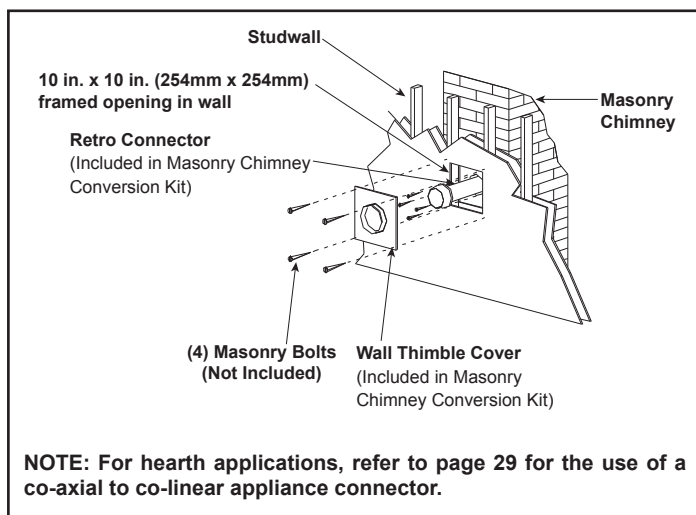
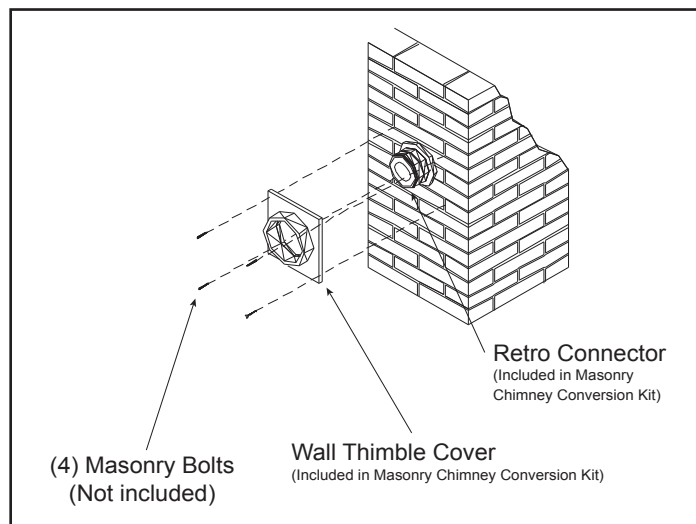

Figure 4.25
Figure 4.30
2. Once the center point of the penetration has been determined, cut a 6 in. (152mm) diameter hole in the masonry. If the hole is too large, the retro connector might not mount properly; if the hole is too small, the appliance might starve for intake air. If there is a frame wall in front of the masonry wall, cut and frame a 10 in. (254mm) square opening in the wall (centered around the 6 in. (152mm) masonry opening). If there is sheet rock only (no studs) in front of the masonry the 10 in. (254mm) opening is still needed, but does not need to be framed. If the hole is framed a wall thimble is required. This allows the retro connector to mount directly on the masonry and provide the correct clearances to combustibles, Figure 4.25.
10. Slide wall thimble cover over retro connector and secure with masonry bolts. See Figure 4.30. If you have a framed wall in front of the masonry, use wood screws to mount wall thimble cover to framed wall, over retro connector and 10 in. (254mm) square framed opening, Figure 4.25. If needed, add a section of direct vent pipe to the retro connector in order to extend through the opening in the wall thimble cover.